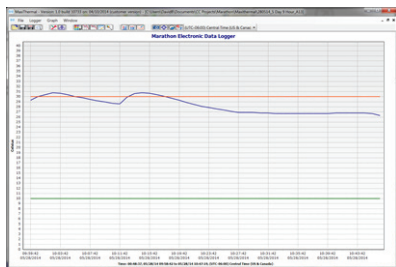

FIGURE 11
- 2.2.4. Once data is downloaded to computer, data graph will be displayed, see Fig. 11